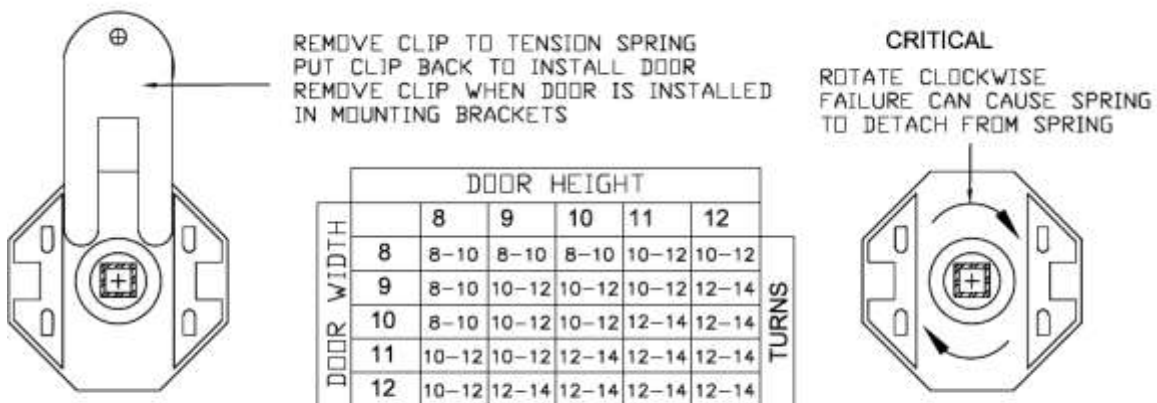

FIGURE 4
7. Slide the flat retaining plate from the end of the spring. Using a crescent wrench, wind the tab on the spring end of the roll tube as shown. (See Fig 4.)